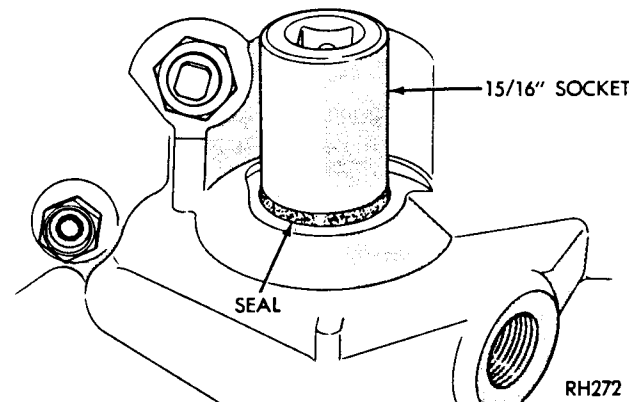

Fig. 13—Installing Manual Lever Shaft Oil Seal
(1) If valve body manual lever shaft oil seal requires replacement, drive it out of the case with a punch.
(2) Drive a new seal into the case with a 15/16 inch socket and hammer (Fig. 13).